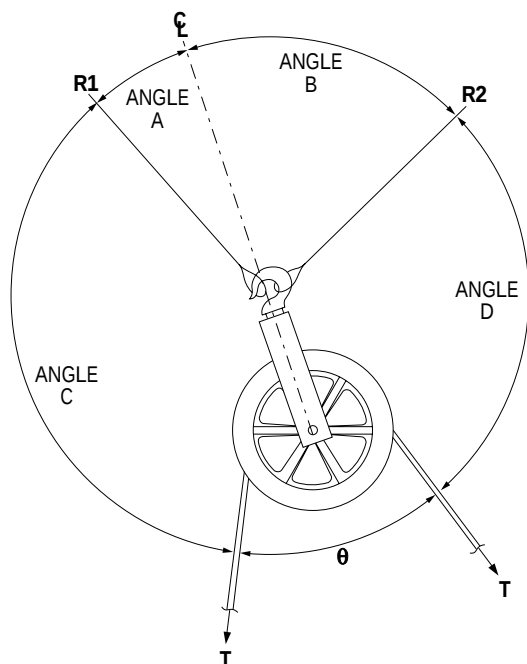

Figure 2 - Single Hook Sheave with two attachment points
### **CALCULATING THE LOAD ON SINGLE HOOK SHEAVES** with two attachment points (Figure 2)
- Determine the angles "A" and "B" (Figure 2) by extending an imaginary line beyond the yoke as illustrated
- Determine the angles "A" and "B" (Figure 2) by measuring angles "C" and "D" and using Formula #2 below.
Measure angles "C" and "D" (see Figure 2)